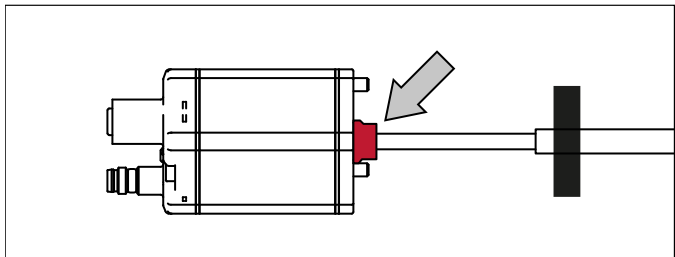

Fig. 32: Remove sealing before inserting into sensor rod HD/HL/HP
- The base unit is mounted by means of three screws. It is the only part that needs to be replaced if servicing is required, i.e. the hydraulic circuit remains closed. Before inserting the base unit into the sensor rod HD/HL/HP, remove the red sealing at the transition between the sensor electronics housing and the flexible sensor rod (Fig. 32). For more information see chapter “4.10.1 Replacement of base unit on the RH5/RFV/RF5 model” on page 40.